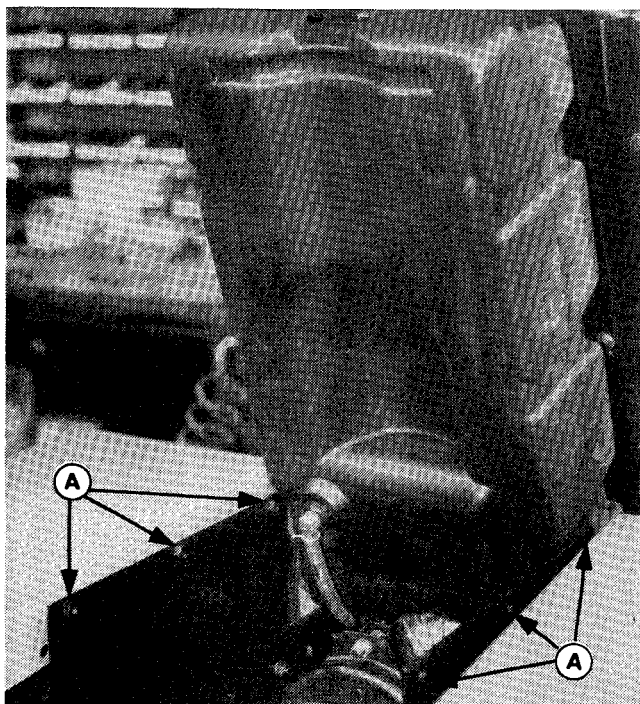

Figure 8.
2. Remove the three bolts (A, figure 8) from each side that secure the fuel tank cover. (Reach under fender.)
3. Raise the seat, tank cover, and tank as shown in figure 8 and wire to steering wheel securely.
17. Install the six screws (A, figure 8).